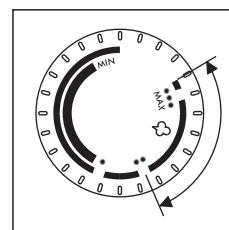

fig. 3
- Turn the thermostat dial on the iron handset to the steam area indicated in Fig 3. (Remember to test fabrics first if you are unsure of the temperature to iron them at ). The thermostat dial should be altered in accordance of what type of fabric you are ironing (see table on page 5 for guidance).